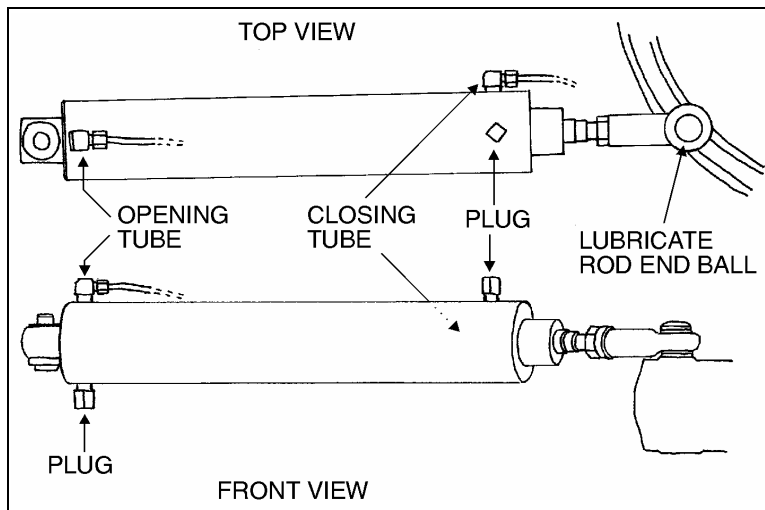

FIGURE 1
5. Use oil to lubricate cylinder rod end ball (Fig. 1), then bolt cylinder end on upper hinge.
10. Apply a *Loctite 567* type thread sealant (Prévost #680098) on male threads of elbow fittings and plugs. Assemble fittings and plugs on door cylinder (Fig. 1).